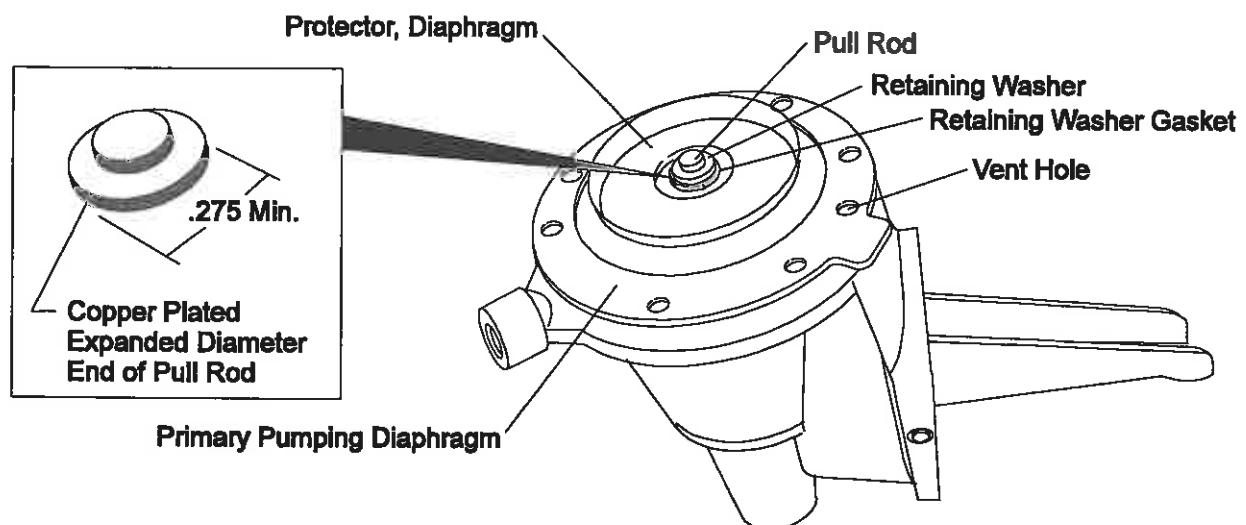

Figure 2.
4. Visually inspect for proper location and retention of the retaining washer gasket in the pull rod/diaphragm assembly. (Refer to Figure 2.) If the gasket is not found between the retaining washer and diaphragm protector or it protrudes more than 1/16 inch beyond the retaining washer at any point, the pump is unserviceable and must be replaced.
5. Using vernier or dial calipers, measure the diameter of the larger copper plated expanded end of the pull rod immediately next to the retaining washer (see Figure 2). If this diameter measures less than .275 inches, the pump is unserviceable and must be replaced.